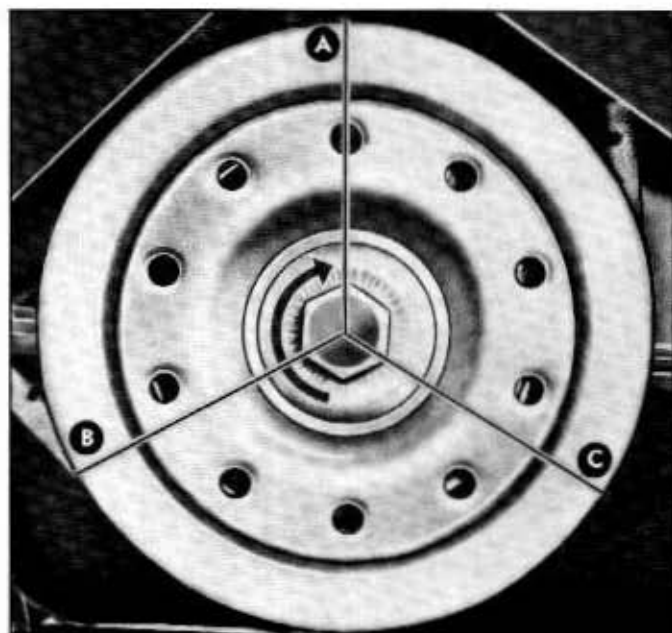

Fig. 6A-9—Preliminary Valve Clearance Adjustment—Typical—(60C-5608)
2. Make two chalk marks on the crankshaft pulley. See figure 6A-9. Space the marks approximately 120° apart so that with the timing mark, the pulley is divided into three equal parts (120° represents 1/3 of the distance around the damper circumference—points "A", "B", and "C" in the figure).